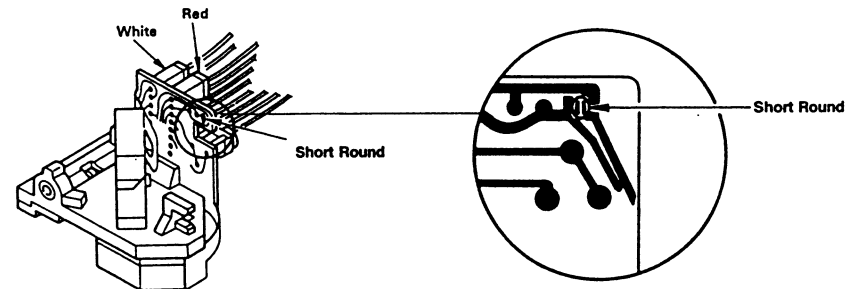

Figure 7
6. After you connect the wire connector, desolder and remove the shorting tab (See Figure 7).